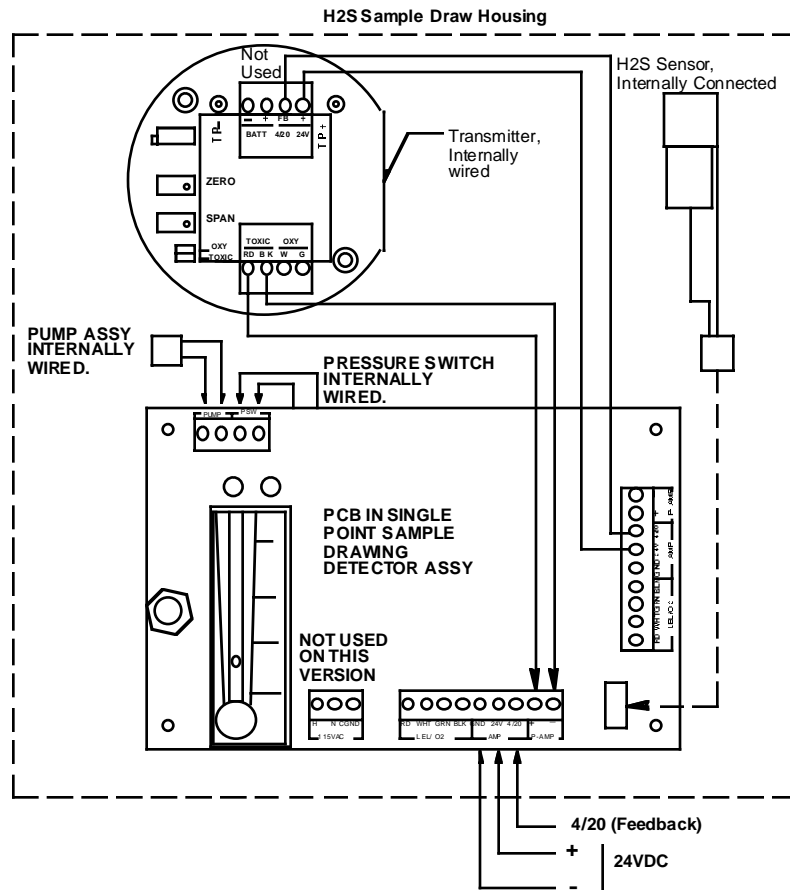

Figure 4: Wiring the Sample-Draw Hydrogen Sulfide Gas Detector
3. Connect the cable to the sample-draw detector’s interconnect terminal strip as shown in Figure 4.